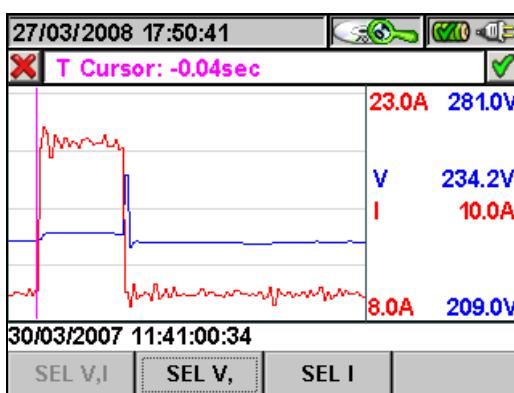

Fig. 108: Inrush current graph
- The **F3** key (or the **GRAPH** item on the display) accesses the page showing the graph for the inrush current selected (Fig. 108).